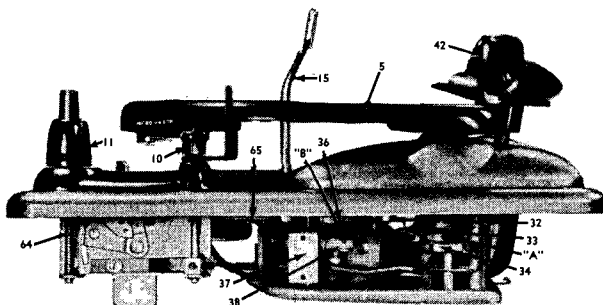

Fig. 1
At the completion of the change cycle, the Actuating Pawl is disengaged from the Main Cam Assembly Actuating Gear (36) by the hook end of the Velocity Trip and Roller Assembly (37) which has been returned to its normal position by the reset points on the Main Cam Drive Gear (Fig. 3). This hook should be adjusted for about $\frac{1}{16}$ " clearance from the bottom of the Main Cam Drive Gear (36), Fig. 1. Greater clearance may permit the pawl to bounce past the hook and re-engage, causing the mechanism to continue to cycle.
Be sure the set screws (A of Fig. 1) of the pickup arm raising disc are not loose and are properly positioned in the alignment holes as explained in the paragraph on Needle Setdown Indexing.
2. Set the Record Selector Post (42) to the 10" position.
4. Be sure the notch in the Pickup Arm Raising Disc (34) engages the Pickup Arm Raising Lever (40).
5. With a No. 8 Bristol wrench in each of the set screws of the Pickup Arm Raising Disc (35) as indicated in A, Fig. 1, alternately loosen one screw and tighten the other until the needle rests above the record lead-in groove at the desired point.
6. Complete the change cycle of the mechanism and position the Pickup Arm on the rest button (10). If necessary, bend the tongue of the Pickup Arm Raising Disc closer to or away from the Base Plate Post until the Pickup Arm is correctly seated on the rest button when the tongue is touching the Base Plate Post.